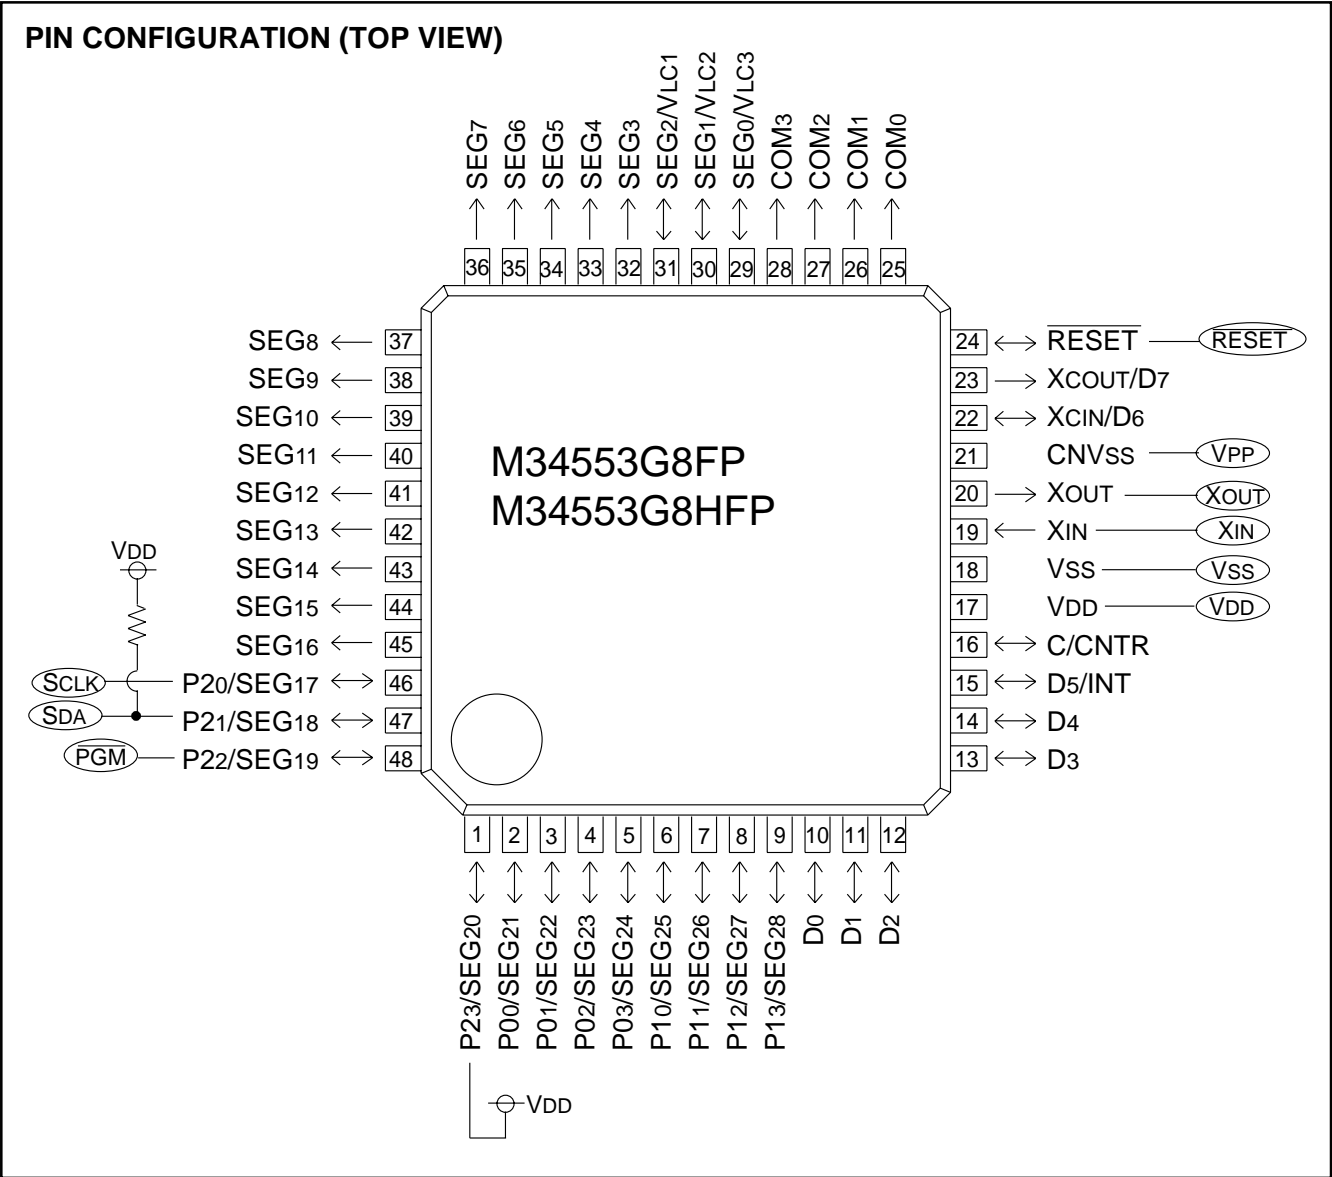

Fig. 57 Pin configuration of built-in PROM version
128	①9 Voltage drop detection circuit (only in H version) revised. Fig.57 revised.